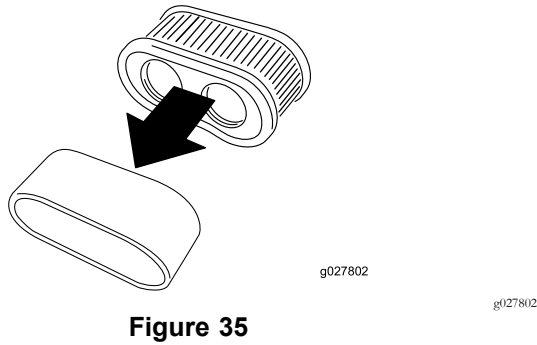

Figure 35
- Remove the foam element from the paper element (Figure 35).